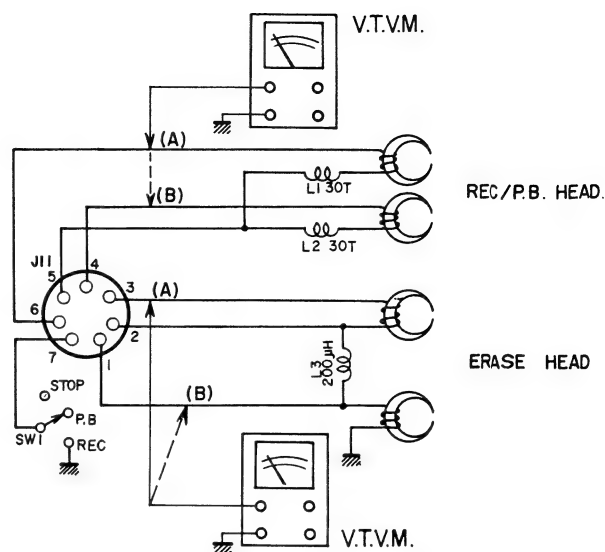

Fig. 2
2. RECORDING BIAS VOLTAGE (Fig. 2)
- Connect the V.T.V.M. to points (A) and (B), then read the value on the V.T.V.M.
3. ERASING BIAS VOLTAGE (Fig. 2)